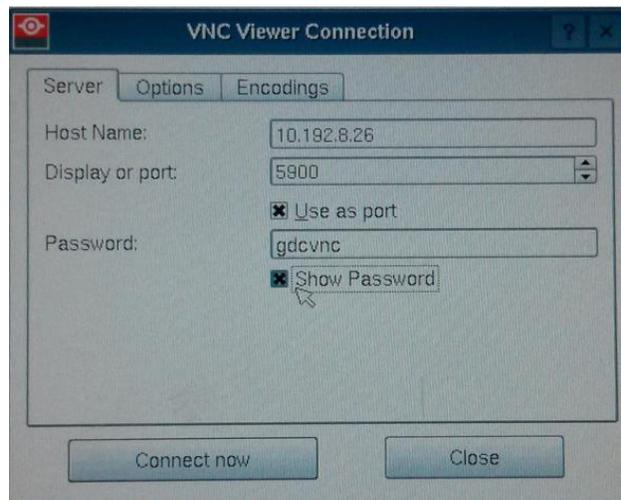

Figure 22 Barco touch panel settings [VNC Viewer Connection].
2. Enter the SOM IP address of the SX-4000 into the **[Host Name]** field. The remaining fields should be filled in as follows (please refer to Figure 22):